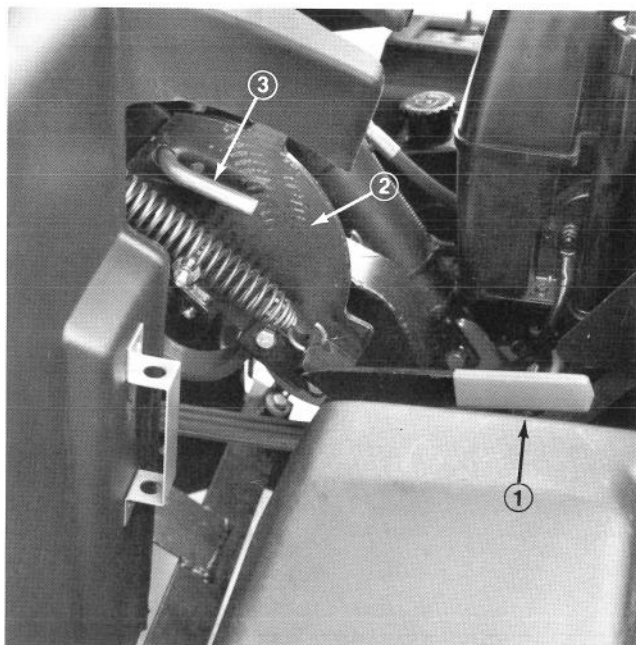

Figure 25
- C. Push down on override lever (Fig. 25) until holes in lever bracket and coring bracket are aligned, then insert pin thru holes.
- D. Loosen adjusting screw jam nut and (2) flange nuts.
- H. Tighten adjusting screw jam nut and (2) flange nuts.
2. Push down on override lever until holes in lever bracket and coring head are aligned, then insert pin thru holes (Fig. 25).